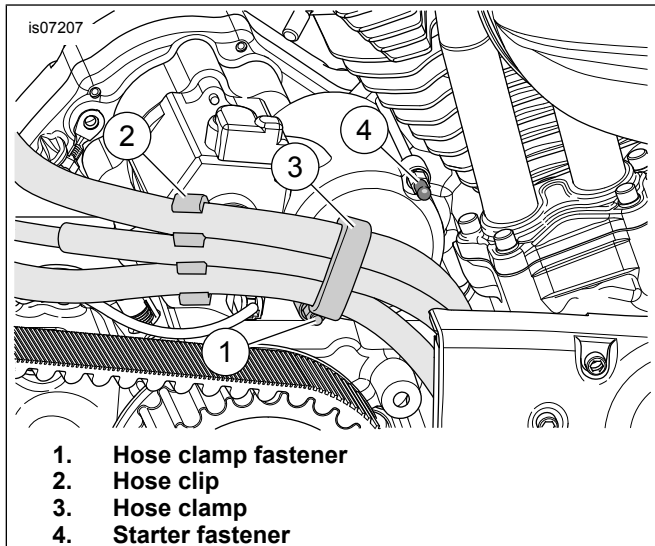

Figure 4. Oil Line Hose Clamp
6. See Figure 4. Remove the hose clamp fastener (1) and hose clamp (3). Remove hose clip (2) from oil lines. Remove the plastic cap (4) from the top starter stud. These items will not be reused.